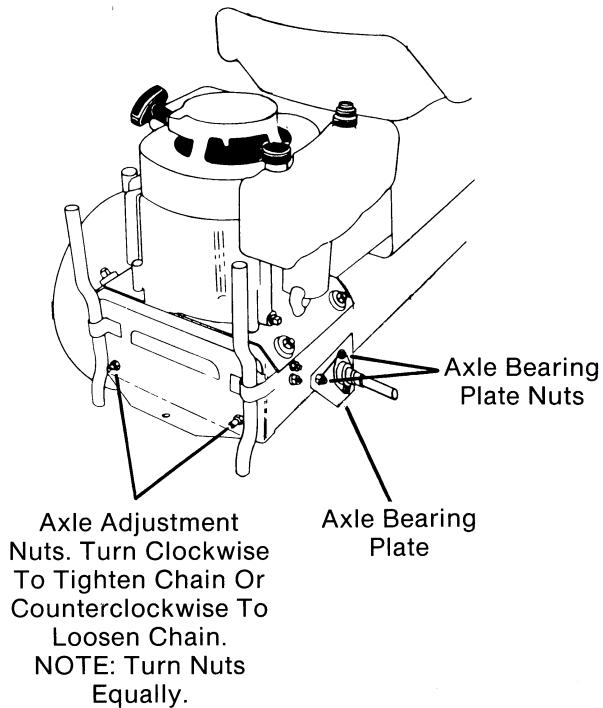

FIG. 23
- Loosen two nuts holding axle bearing plates to main frame, on both sides of rear engine rider. (Fig. 23)
- Turn axle adjustment nuts clockwise to tighten chain or counterclockwise to loosen chain. (Fig. 23)